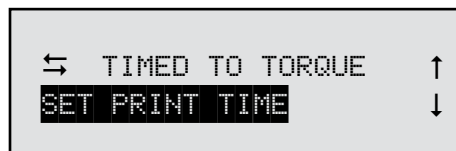

Figure IV-29
This option is used to set the print time interval to the selected printer. Scroll to Set Print Time, as shown in Figure IV-29:
*Note:* The value for minutes or seconds must be other than zero (0) or you will print continuously when you exit this mode. A press of the MOTOR ON/OFF/ESCAPE key would exit this option and take you back to the screen of Figure IV-29.
Continued pressing of the OPTIONS/TAB key will toggle between the minutes and seconds input screens. Press the ENTER/AUTORANGE key to accept the new values for print interval in minutes and seconds. You will now be in the screen display of Figure IV-29 where you may re-enter the print interval mode, or exit to the default screen (Figure II-5) by pressing the MOTOR ON/OFF/ESCAPE key.